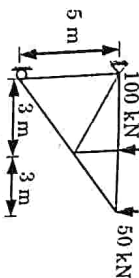

Fig. 3.
- f. Analyze the truss shown in Fig. 3.